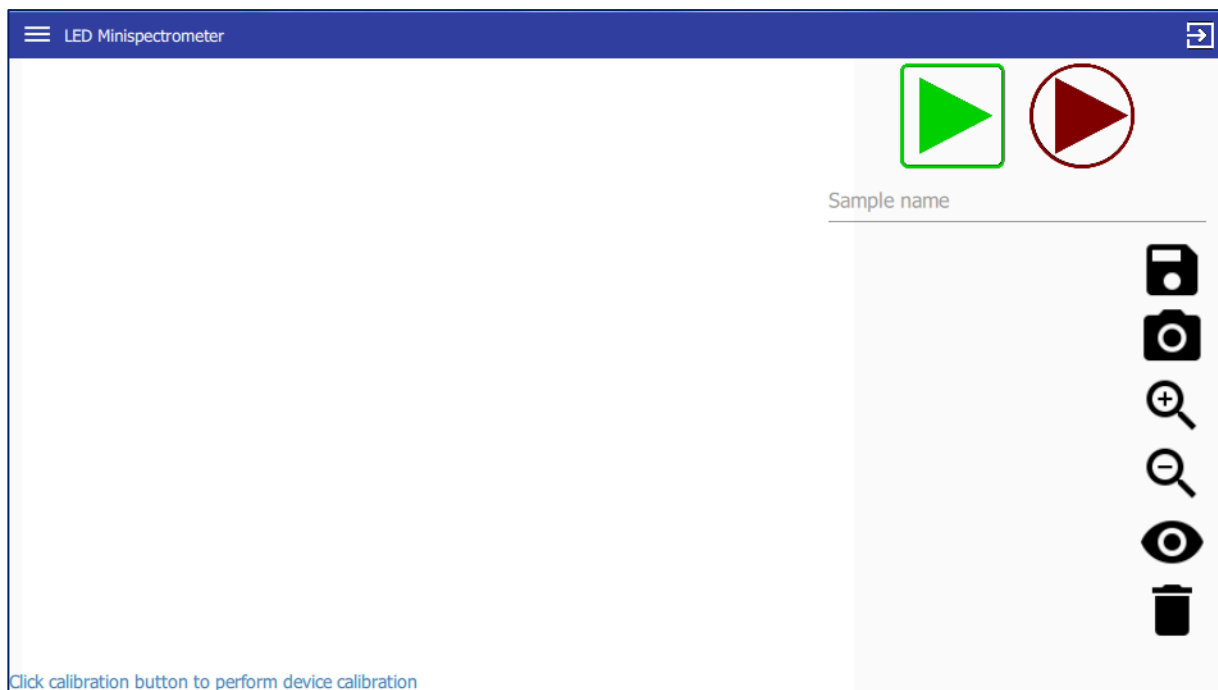

Fig.4. Main program window.
- Choose the mode of the results display: “GraphView” – displays spectral curves or “HistogramView” – displays histograms (it is possible to switch between displaying modes during measurements). Main program window will open (fig.4).